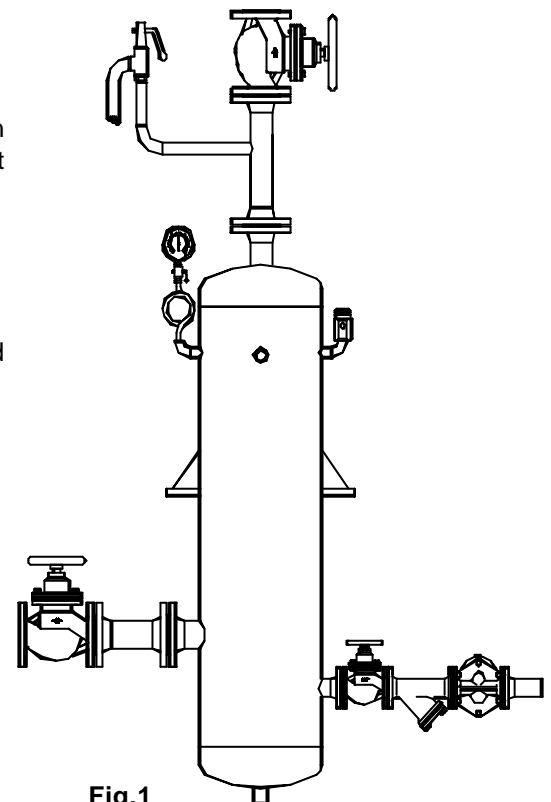

Fig.1
-If malfunction of any other equipment or system operation failure may result in a dangerous overpressure ,overtemperature or even vacuum condition, a safety device must be included in the system to prevent such situations .A safety valve socket connection is provided on the vessel.If the selection of safety valve recommend the use of a valve connection bigger than that included on the vessel, then , we recommend it's installation as mentioned on fig.1.